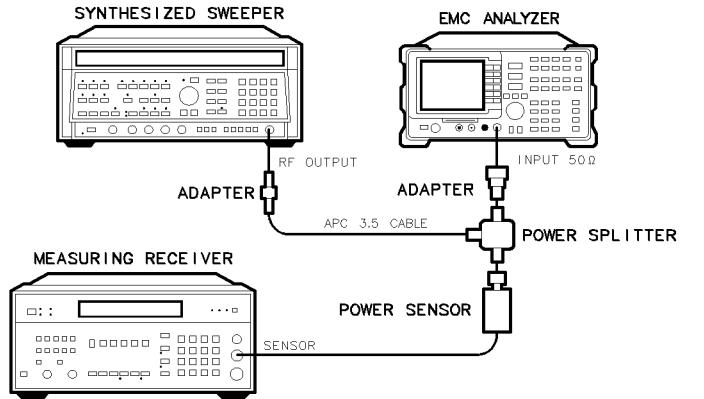

Figure 2-35.
3. Connect the equipment as shown in Figure 2-35.